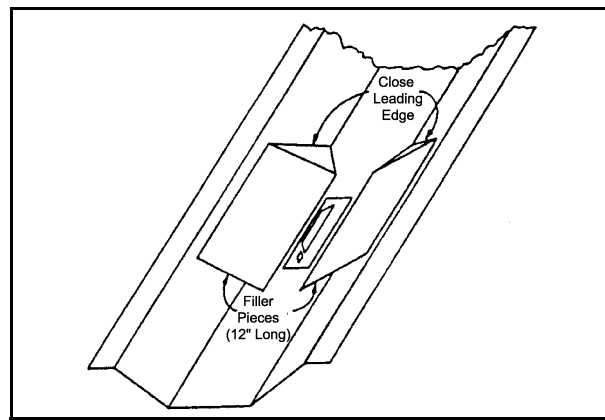
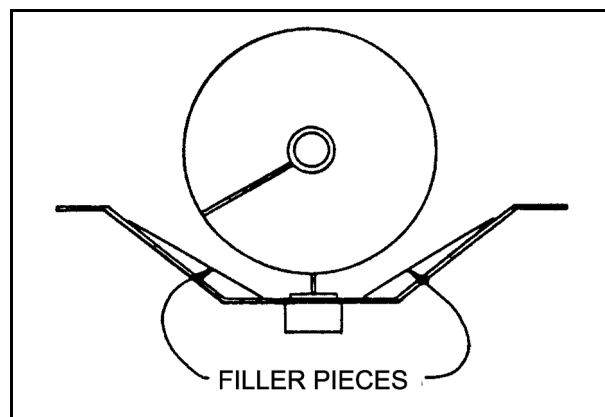
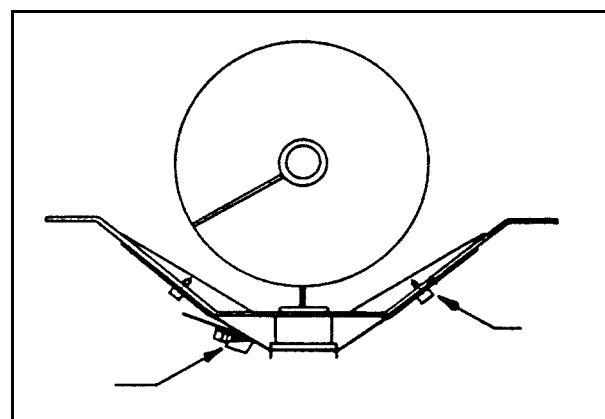

Figure 4G
Figure 4H
Figure 4I
5. On the flat bottom pan, make some filler pieces 12" long to keep the grain closer to the sensor flag. *See Figure 4G*, *See Figure 4H*, and *See Figure 4I*. Be sure the leading edge is closed so grain cannot get under the pieces. Weld the pieces in place as shown. (*See Figure 4G*).
7. Securing the sensor to the flat pan will require modified clamps. Cut the end off the clamp and mount it with a self-drilling screw to the tapered side so the screw tip goes under the filler pieces added earlier. Attach the screw end of the clamp on the other side with a self-drilling screw. Have the length such that the screw is beside the sensor as show in Figure 4I.